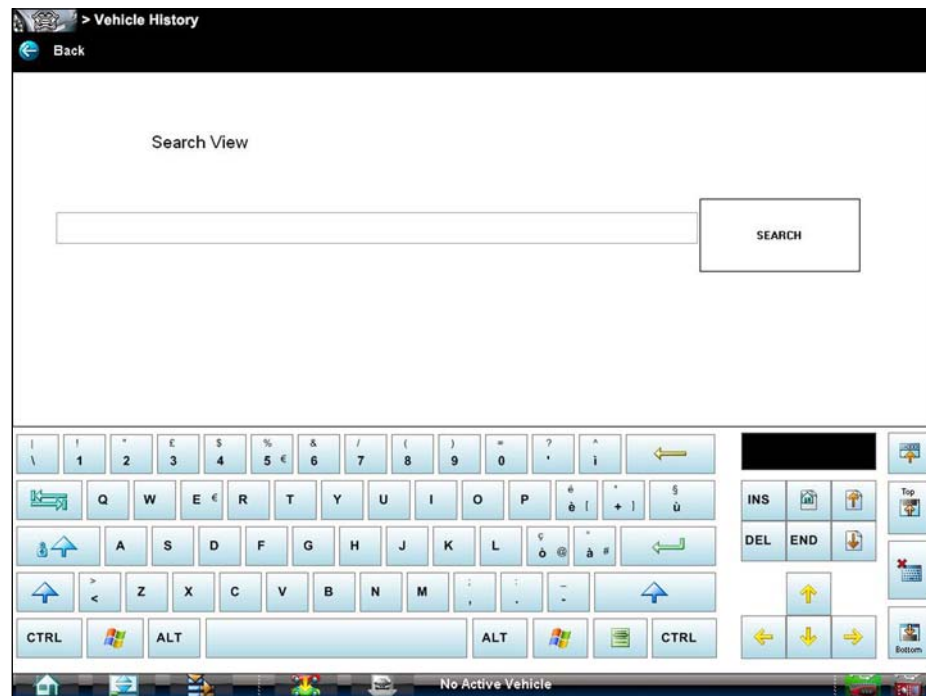

Figure 10-3 Sample Search dialog box
2. Select within the text field of the search window to open the virtual keyboard (Figure 10-3).